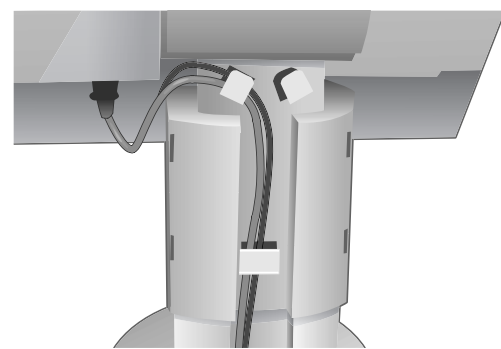

Figure C.3
- Place DVI cable and power cable into the specific hooks as indicated in **Figure C.3**.